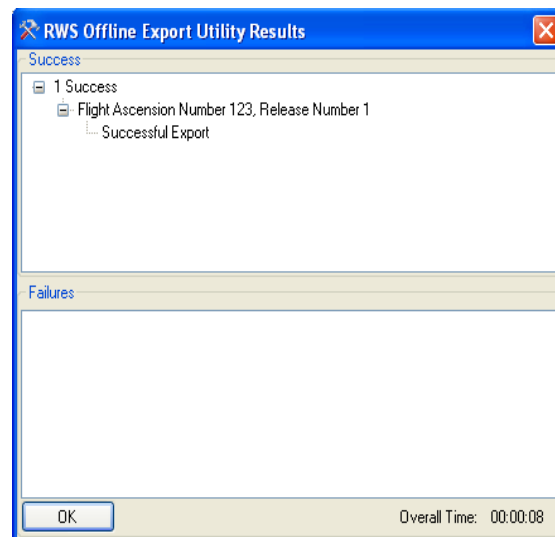

Figure B-7: RWS Export Utility Results
9. Click **OK** to export flights. All selected flights will be exported. The *RWS Offline Export Utility Results* window will display when the export is complete (Figure B-7).